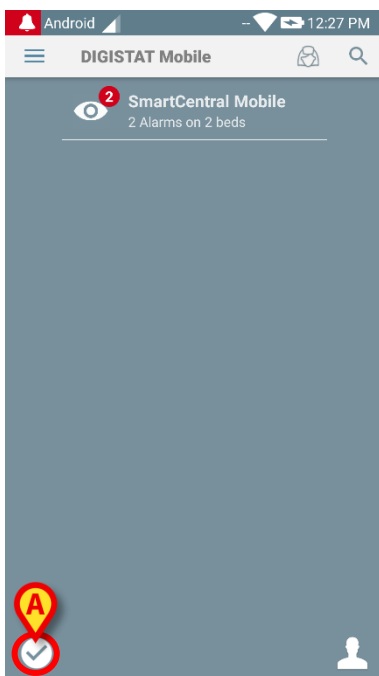
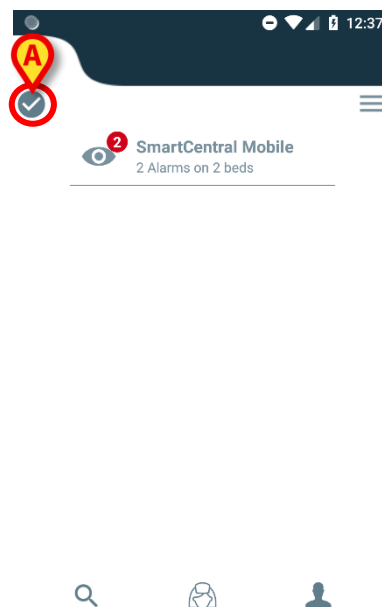

Fig 188
Fig 189
- Touch the symbol in Fig 188 **A** or Fig 189 **A** to set the device as “unavailable”;
The launcher home page will change as shown in Fig 188.